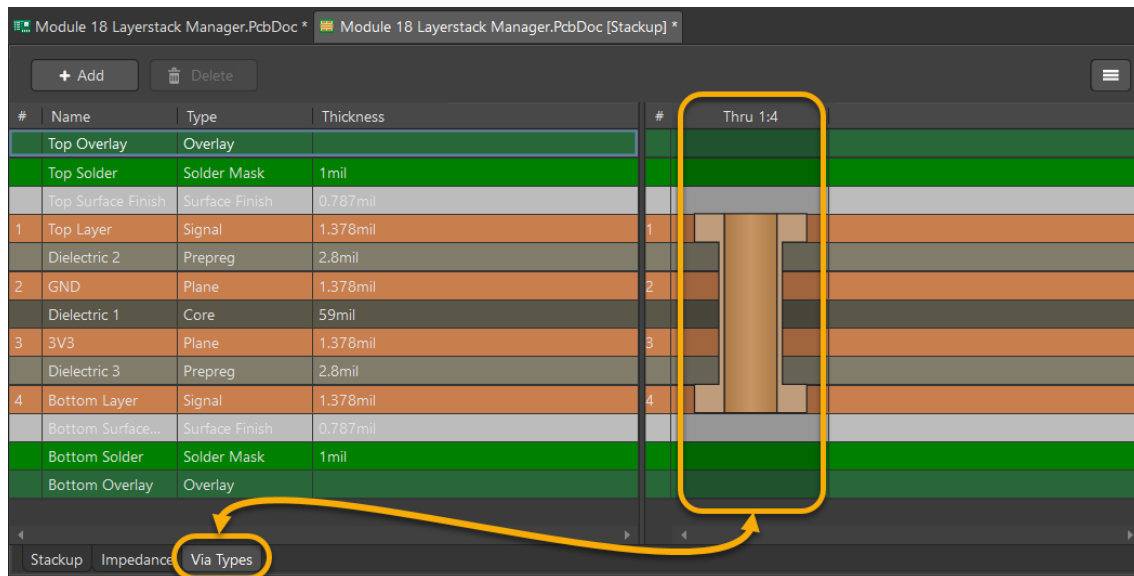

Figure 7. Layer Stack Manager with default via pairs
23. At the bottom of the *Layer Stack Manager* select the tab *Via Types*. By default, a through-hole Via from the Top Layer to Bottom Layer is available, as shown in Figure 7 below.